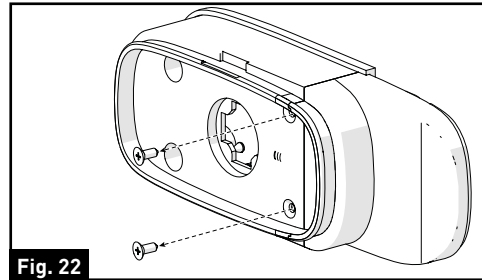

Fig. 22
3. Remove the two screws holding the decorative part using a Phillips-head screwdriver and set aside. (Fig. 22)